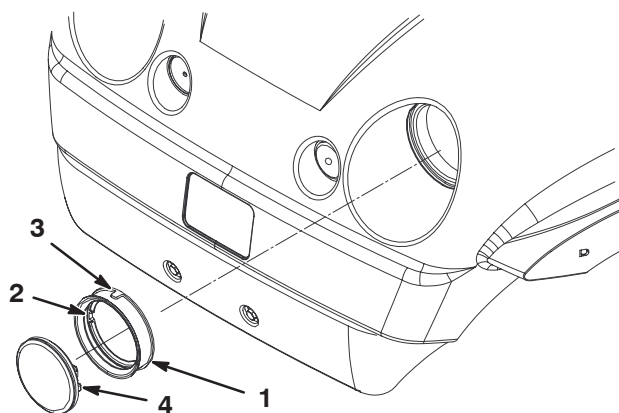

Figure 31
- 4. Remove the rubber seal from around the headlight (Fig. 31). Discard the headlight.
- 5. Align the notch on the inside of the seal with the notch on the new headlight (Fig. 31). Slide the seal onto the headlight until the seal is firmly in place.